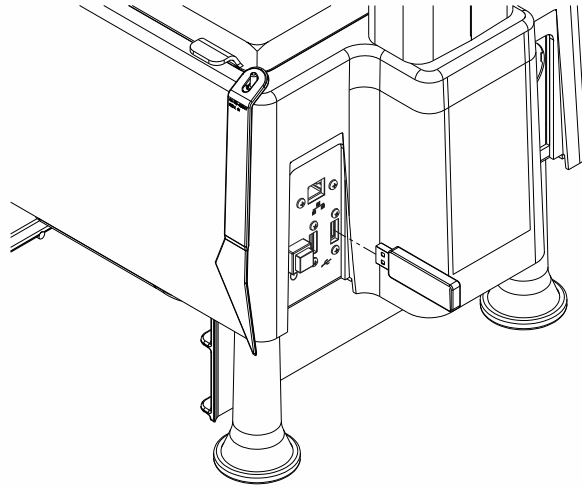

Figure 2.6 USB memory stick Installation
2. Plug the USB memory stick into an unoccupied USB port of the Eyecon. See Figure 2.6 for USB port location.